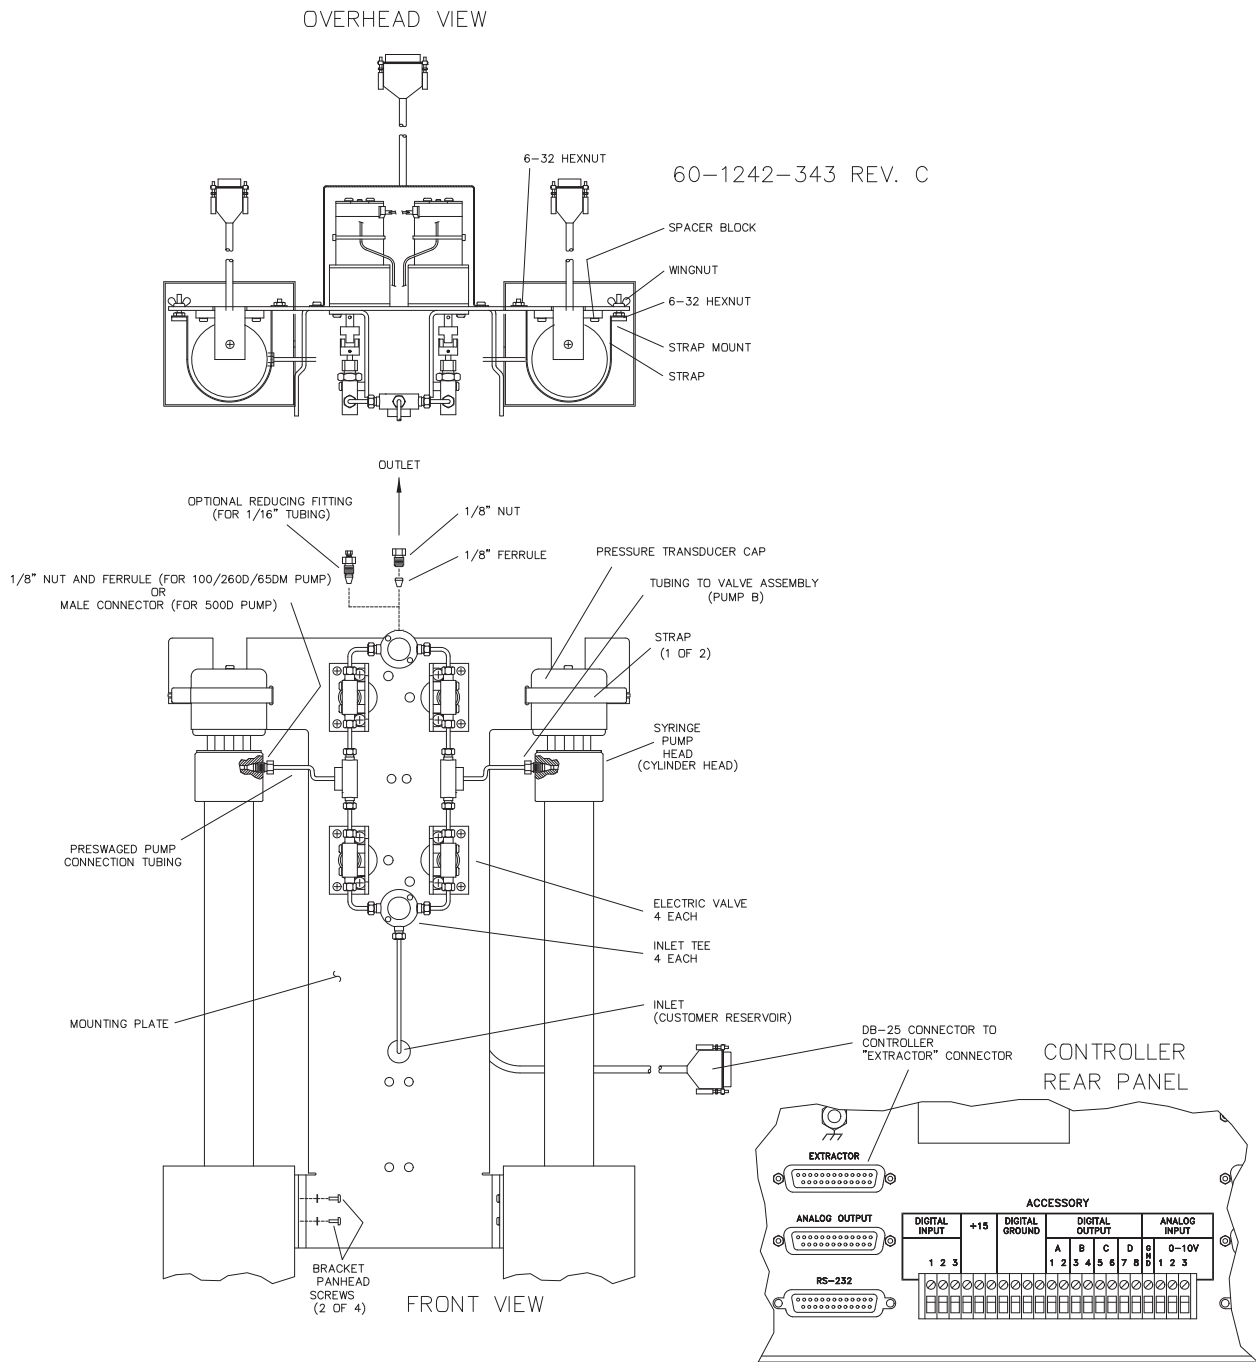

Figure 5-7 Electric valve installation
To install the electric valve package (refer to Figure 5-7 on the following page):
8. Connect the DB-25 cable to the controller rear panel “SFX 220/VALVES” connector (Figure 5-7).